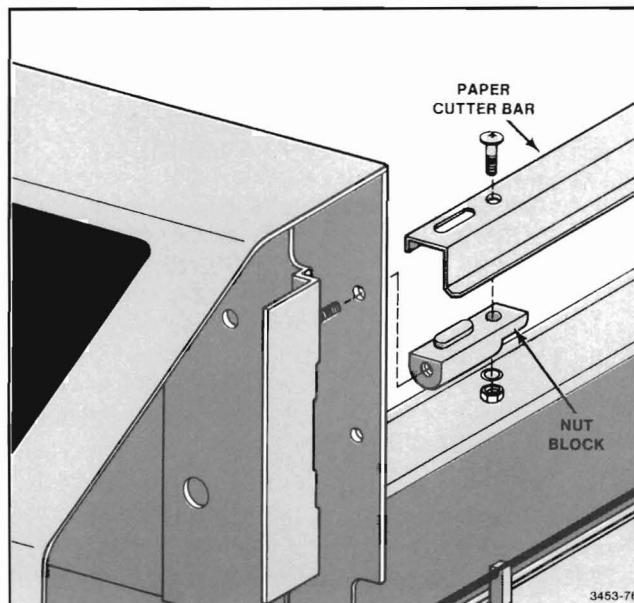

Figure A-14. Paper Cutter Bar Assembly and Mounting.
2. To each end of the paper cutter bar, mount a nut block (220-0595-00) using a screw (211-0507-00), washer (210-0055-00), and nut (210-0407-00). (Refer to Figure A-14.)